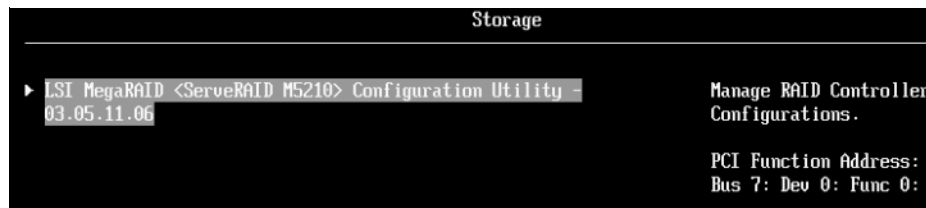

Figure 5-21 LSI MegaRAID Utility panel for ServeRAID M5210
1. Enter UEFI setup by selecting F1 when prompted at start time. Access the LSI Configuration Utility from the menu by selecting **System Settings** → **Storage** → **LSI MegaRAID <ServeRAID M5210> Configuration Utility**, as shown in Figure 5-21.